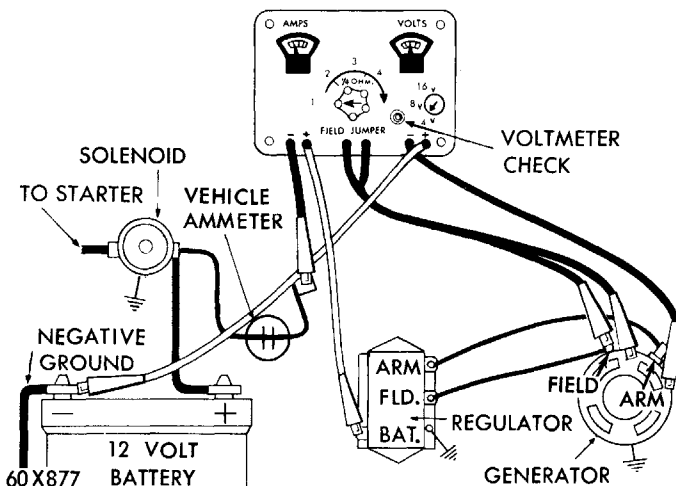

Fig. 3—Ground Circuit Resistance Test
(1) Connect test ammeter and jumper wire leads as outlined under Insulated Circuit Resistance Test.
(2) Connect positive voltmeter lead to the battery negative ground post and the negative voltmeter to generator housing, as shown in Figure 3.
(3) Start engine and adjust speed until ammeter reads exactly 20 amperes.
(4) Note voltmeter reading. This will indicate the voltage loss in the ground side of the charging system and should be not more than .1 volt. A voltmeter reading higher than .1 volt indicates excessive resistance in this portion of the charging system. Check for loose or corroded battery cable connections or a poor electrical connection between generator and engine.